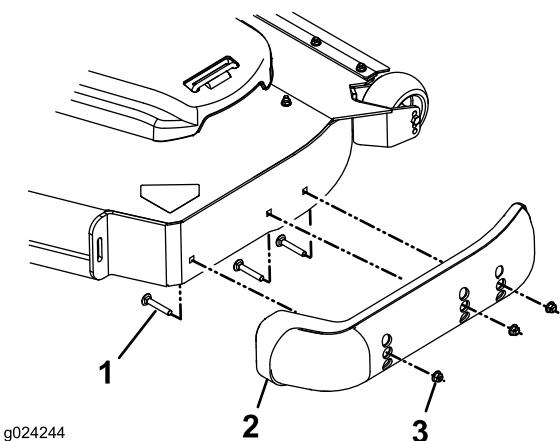

Figure 30
- Remove the carriage bolts and nuts from each skid (Figure 30).